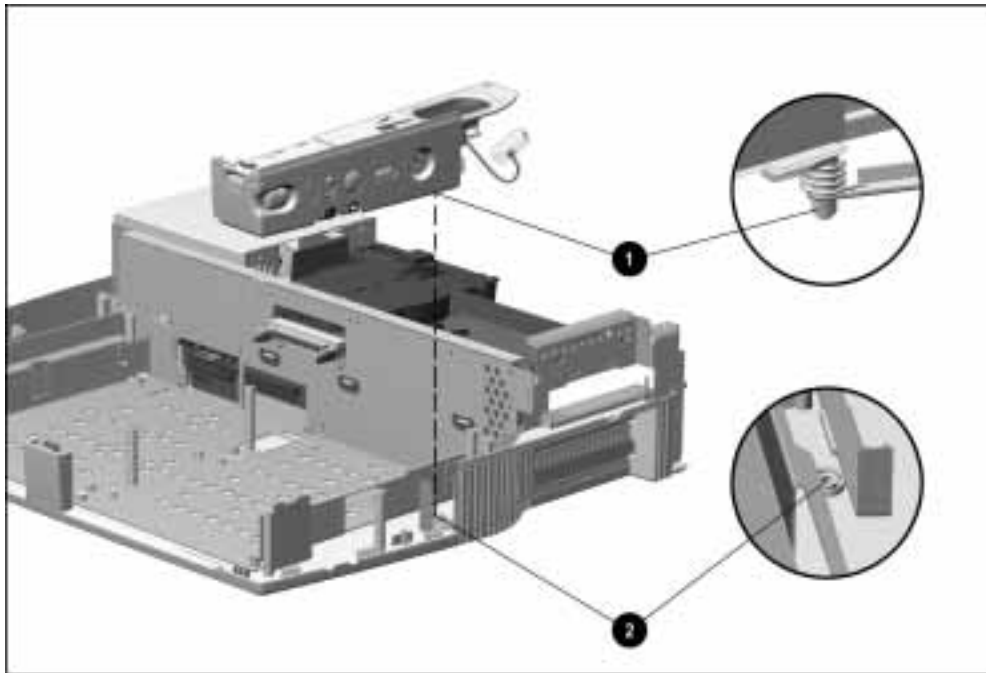

Figure 5-43. *Installing the Control Panel Assembly*
4. Insert the control panel assembly into the base assembly, making sure the pin on which the actuator spring sits **1** fits into the alignment hole in the base assembly **2** (Figure 5-43).